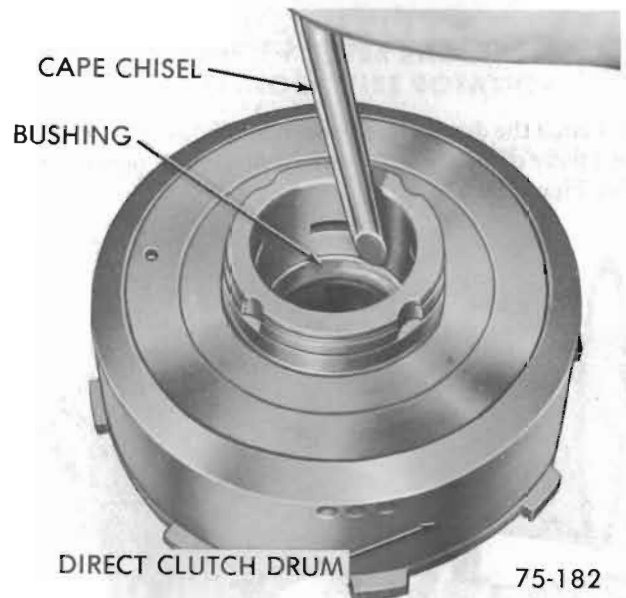

Figure 75-170
13. If bushing replacement is necessary, use a Cape Chisel and remove bushing using care not to score inner surface of direct clutch drum. See Figure 75-170.